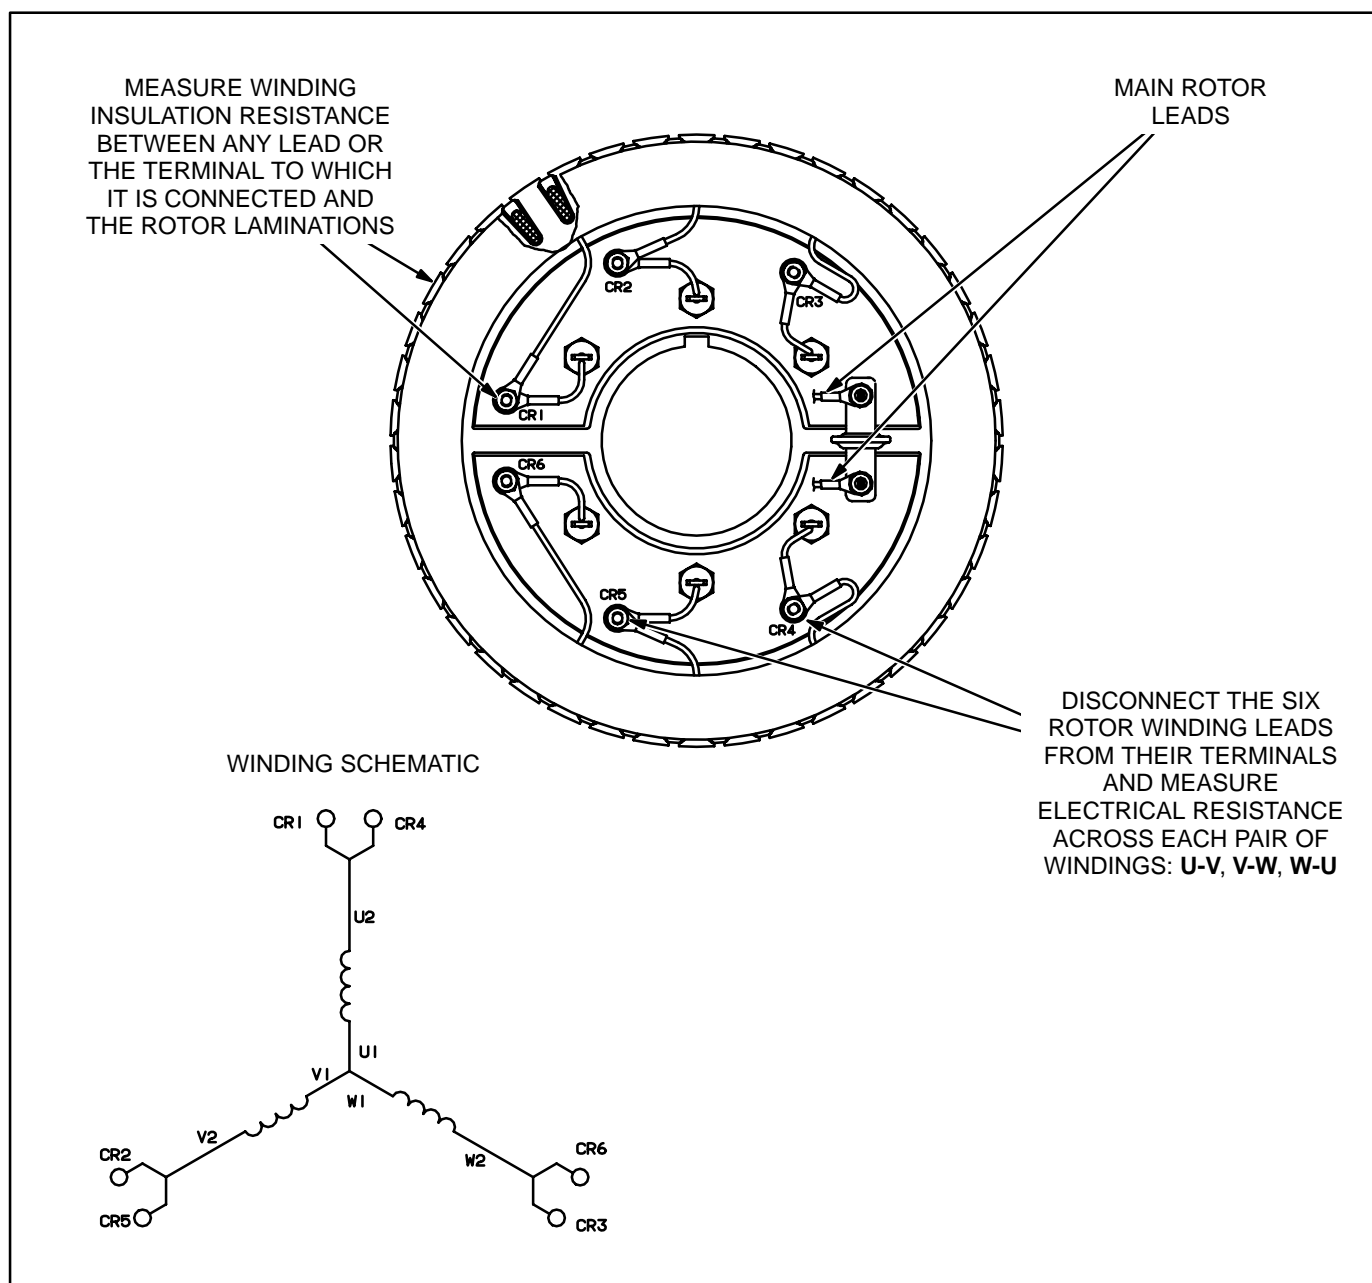

FIGURE 7-4. TESTING THE EXCITER ROTOR
**Testing Winding Resistance:** Disconnect the two leads of the main rotor from the terminals on the rotating rectifier assembly. See Figure 7-4. Measure electrical resistance between the two leads with a Wheatstone bridge or digital ohmmeter. Replace the rotor if the resistance is not as specified in Table